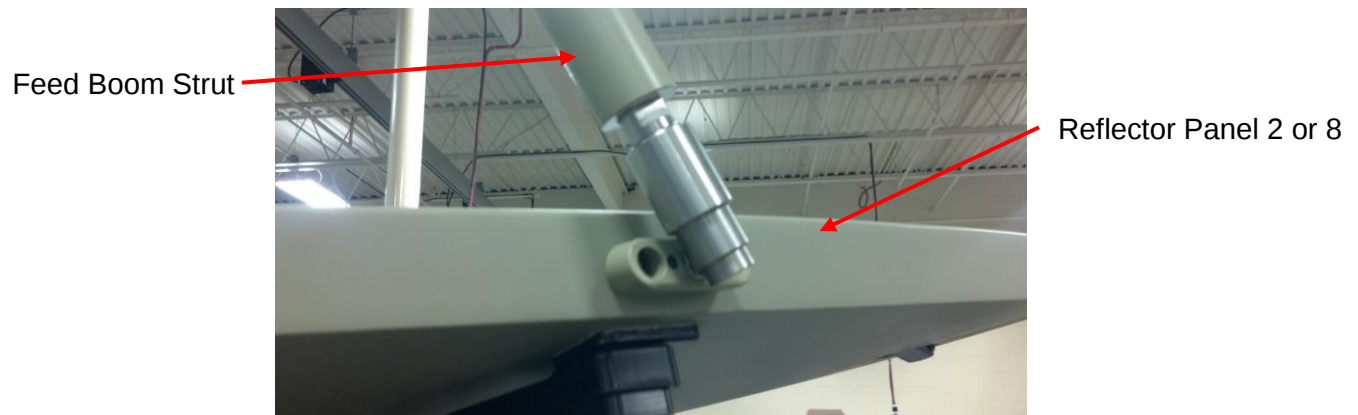

Figure 37. Attaching Feed Struts to Reflector
23. Attach the struts to reflector panels 2 and 8 using ball joints found on the outer edge of the panels as shown in Figures 37.